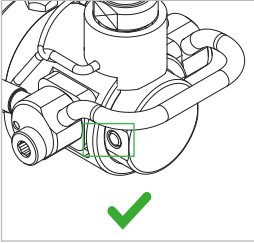

Figure 11
**Attention:** The system must be fully depressurized so that the safety peg (Pos. 5) on the connector can retract and the actuation is no longer blocked (Figure 11).